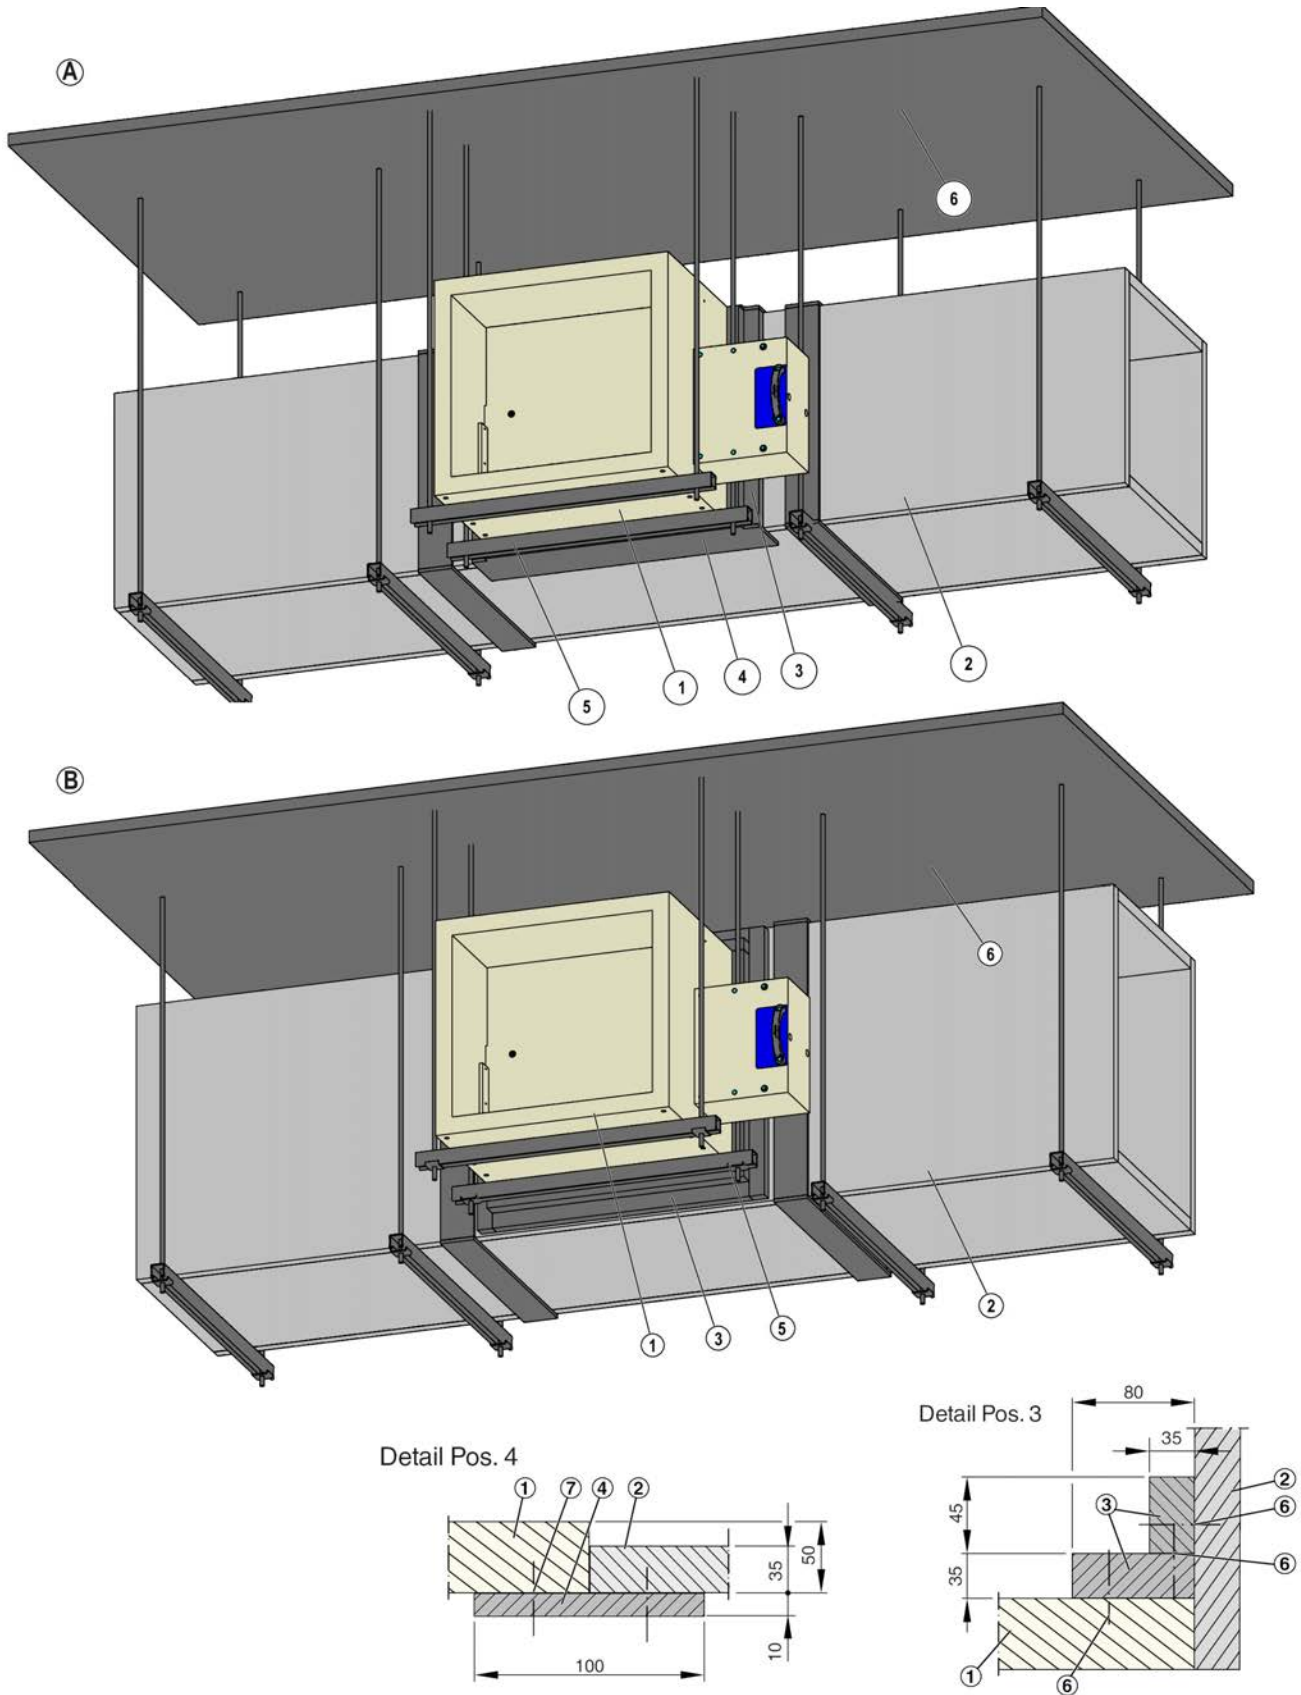

Fig. 21: Installation on fire-resistant horizontal smoke extract ducts, classification index: v_{ed}
3. ▶ Connect the fire-resistant smoke extract duct to the smoke control damper by placing an angle section (Fig. 21 /3) between the duct and the damper. Apply glue to the angle sections at the joints, at the smoke extract duct and the smoke control damper, then link the sections with steel staples, distance $\leq 150 \text{ mm}$.